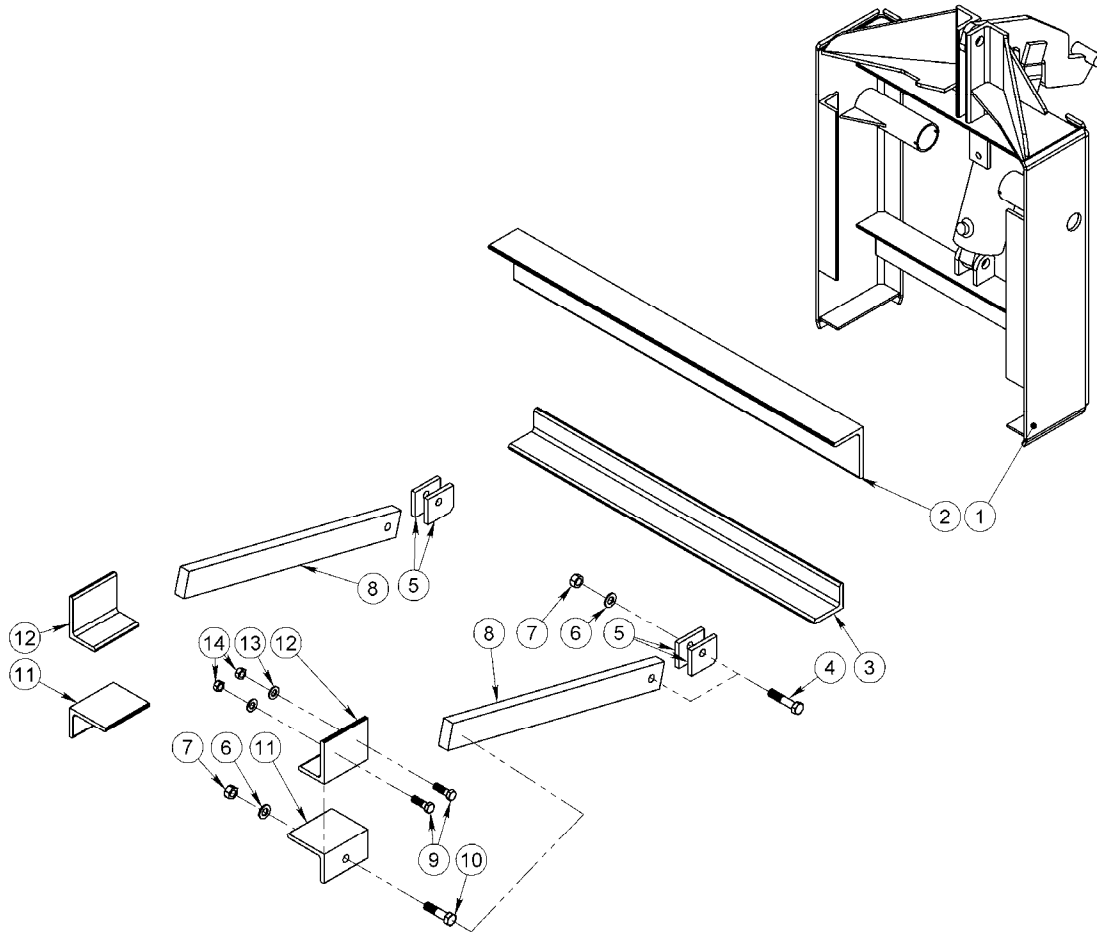

FIGURE 3-1 – Typical Thrust Arm Attachment, Parts View
1. Determine method for mounting hitch to front of frame. The hitch must be securely attached to the front of the frame rails using heavy-duty structural members. See Figures 3-1 and 3-2.
- b.) The supplied **1300-0067 or 3900-0752 (Item 2, Fig 3-1)** upper mounting angle can be mounted across the top of the frame rails, then secured with bolts. If the existing bumper brackets are strong enough, they can be used to secure the upper mounting angle. If the existing bumper brackets are not strong enough, structural angles can be used (such as a Henke P/N 1300-0340, 6x4x1/2 angle x 8" long; not supplied with standard attaching kit). Additional strength may be obtained by installing bolts through the top of the upper mounting angle directly into the top flanges of the frame rails on each side. The 5/8" Gr. 8 bolts supplied may be useful in attaching the upper mounting angle.
4. Determine how to best locate the **1300-3102 (Item 8, Fig. 3-1) thrust arms**, which run from the angle on the lower rear of the hitch to the truck frame (see Fig. 3-1 or 3-2). These thrust arms provide essential support to the hitch and truck frame and are effective in transferring a portion of the load created by plowing snow into a more rearward portion of the frame. They must be located to avoid various truck components, which vary widely depending on truck make & model, optional equipment, etc. The Henke standard attaching kit allows for both left-to-right and front-to-back variation in thrust arm mounting position.
- a.) Secure the 1300-3102 thrust arms to the 1300-0068 or 3900-0511 lower mounting angle (**Items 8 & 3, Fig. 3-1**) on the lower rear of the hitch using **(2) 1300-0074 ears, (1) 7020082 3/4-10 x 3.5 Gr. 8 bolt, (1) 7040007 hardened**
- flat washer, and (1) 7030030 3/4-10 Gr. C toplock nut (Items 4, 5, 6, & 7, Fig. 3-1) per thrust arm. Tack weld the 1300-0074 ears in place.**
- b.) Determine the proper location of the **rear attaching angles (1300-0077 & 1300-0078) (Items 11 & 12, Fig. 3-1)** on the truck frame. Attach each 1300-0077 angle to the truck frame using a minimum of **(2) 5/8" Gr. 8 bolts, nuts, and washers (Items 9, 13, & 14, Fig. 3-1).**
- c.) Position each **1300-0078 angle (Item 11, Fig. 3-1)** at the proper width to line up with the corresponding **1300-3102 thrust arm (Item 8, Fig. 3-1)**, then weld the 1300-0078 angle to the 1300-0077 angle. **DO NOT WELD ANYTHING TO THE TRUCK FRAME.**
- d.) If necessary, trim each 1300-3102 thrust arm to fit. Drill a 25/32" hole in the appropriate location in each thrust arm to line up with the existing hole in the **1300-0078 angle (Item 11, Fig. 3-1)**, then secure the brace to the angle using **(1) 7020080 3/4-10 x 3 Gr. 8 bolt, (1) hardened flat washer, and (1) toplock nut per brace (Items 6, 7, & 10, Fig. 3-1).** Alternately, the 1300-3102 thrust arms may be securely welded to the 1300-0078 angles.